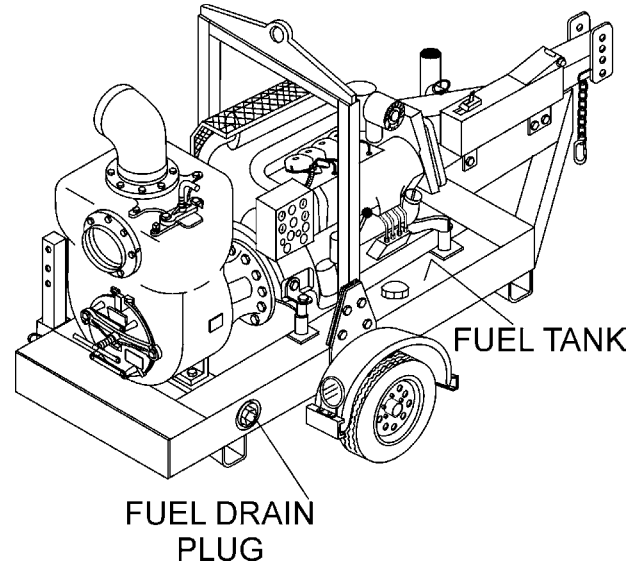

**Figure 43. Replacing Crankcase Breather Filter**
1. Release the four mounting bolts on the breather cap (Figure 43).